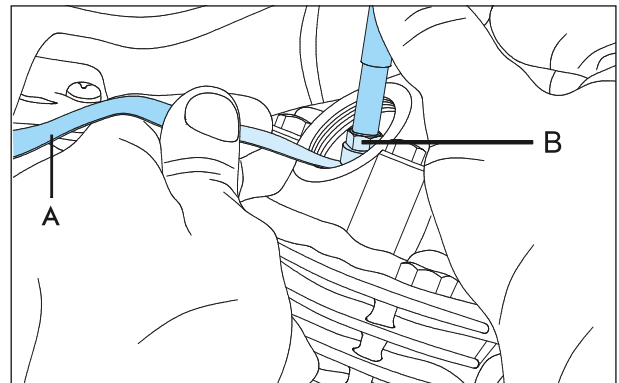

Fig. 2.30
- Place the feeler gauge (A) and adjust the clearance using the special tool (B). (Fig. 2.30)